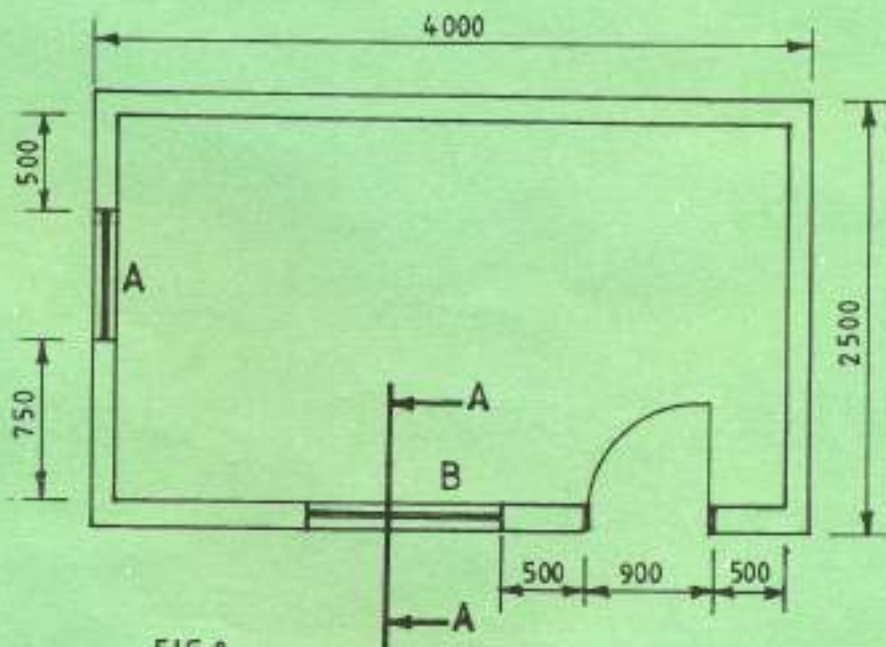

FIG. 8
8. Figure 8 shows the floor plan of a proposed school canteen which is to have a pitched roof. Using a scale of 1:20 draw section "A-A" from the foundation to the roof given the following specifications: